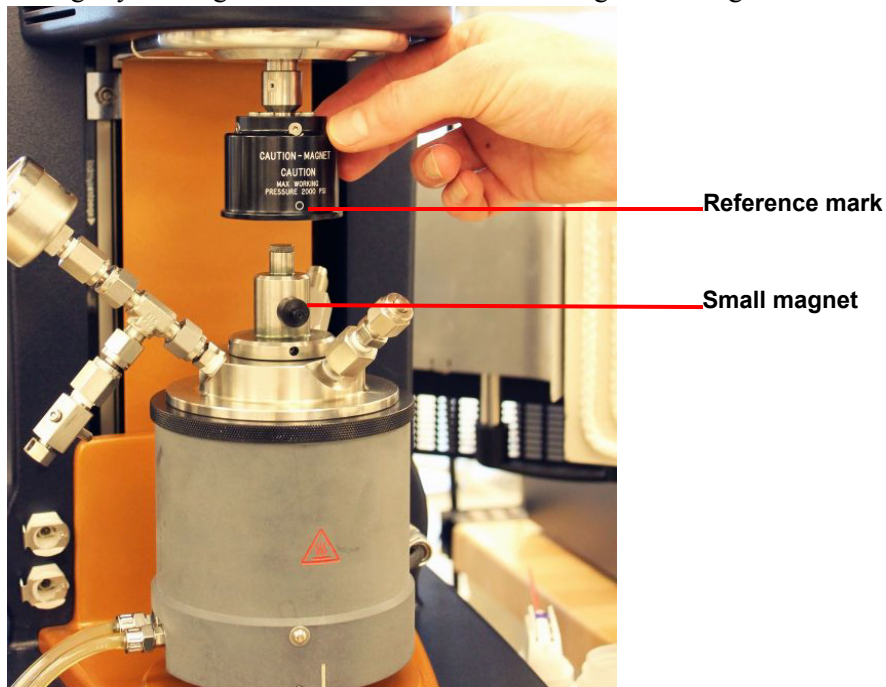

Figure 20 Aligning the reference mark.
- 8 Rotate the draw rod so the magnet assembly reference mark is aligned with the small magnet on the Rotor. Ensure that the reference mark on the upper geometry remains aligned with the small magnet by lightly holding the rheometer draw rod and begin lowering the rheometer head as shown in Figure 20.